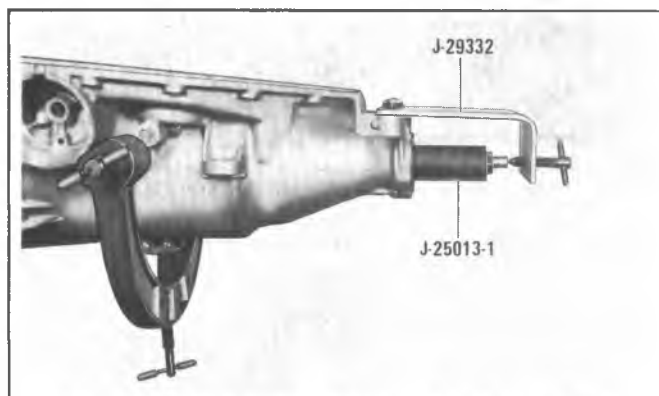

Figure 7A6-121 Installing Tools on Rear End of Case
2. Install gage clamp on case as shown (Figure 7A6-122).